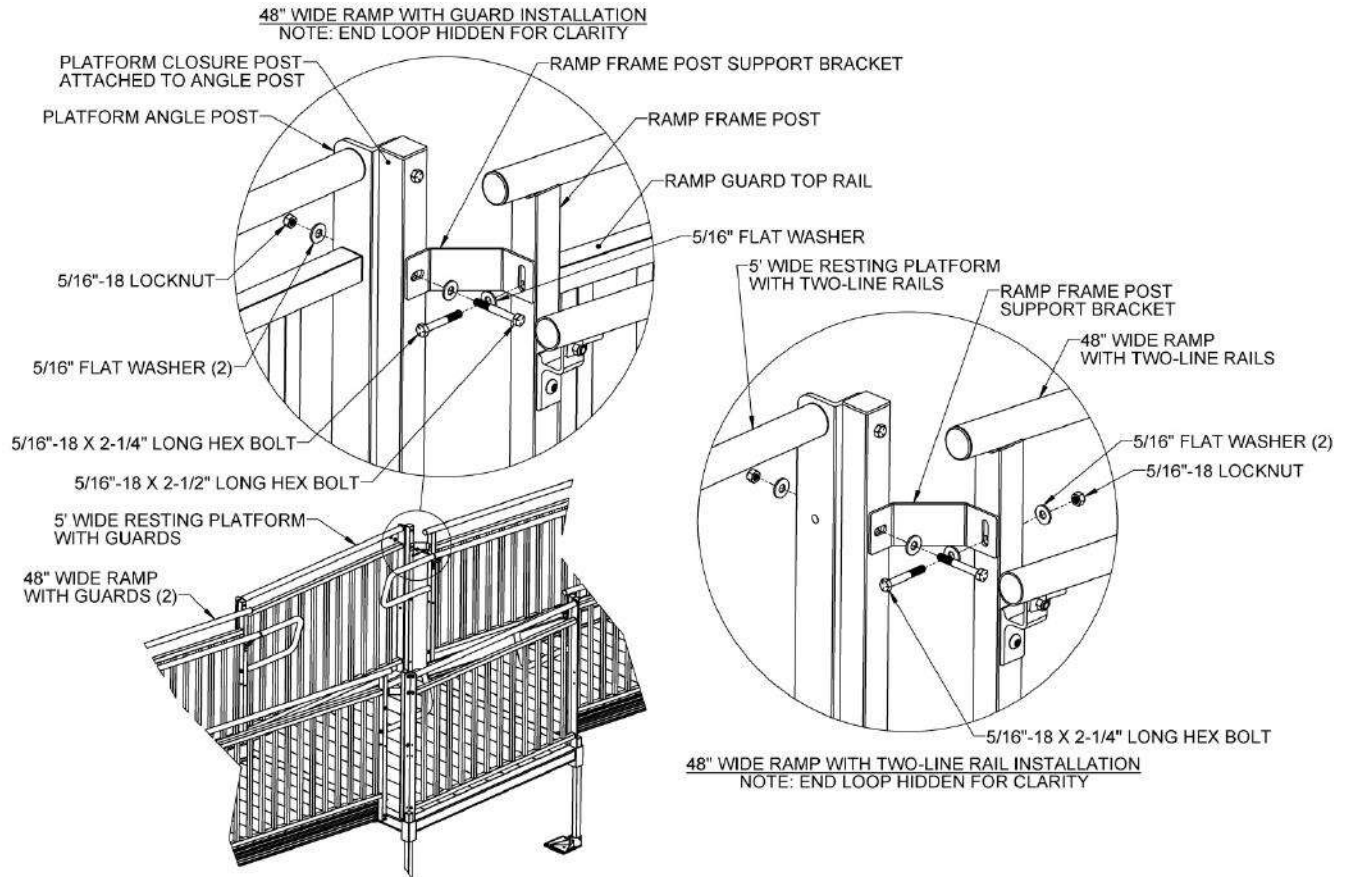

FIG. 5.50
- 5.11.5. If ramps are guarded, first remove the 5/16"-18 x 2-1/4" hex bolt and 5/16" flat washer attaching the guard top rail to the ramp frame post adjacent to the platform angle post (FIG. 5.50). If ramps have two-line rails, 5/16"-18 x 2-1/4" hex bolts, 5/16"-18 locknuts, and 5/16" flat washers are provided for bracket attachment to the uppermost hole in the ramp frame post.
- 5.11.6. For 48" wide ramps, attach the long leg of the ramp frame post support bracket with the vertical slot to the ramp frame post using either the 5/16"-18 x 2-1/4" hex bolt and 5/16" flat washer removed from the guard or a 5/16"-18 x 2-1/4" hex bolt, 5/16"-18 locknut, and 5/16" flat washers if installing a two-line rail (FIG. 5.50).
- 5.11.7. Align the horizontal slot in the ramp frame post support bracket with the second hole from the top of the platform angle post (or the 1-1/2" square x 42-7/16" long closure post if installing a 48" wide ramp) as shown (FIG. 5.51 or FIG. 5.50).
- 5.11.8. Attach the Ramp Frame Post Support Bracket to the platform angle post using a 5/16"-18 x 2-1/2" long hex bolt, 5/16"-18 locknut and 5/16" flat washers oriented as shown through both the 1-1/2" square x 42-7/16" long closure post and platform angle post if installing a 48" wide ramp or directly to the platform angle post using a 5/16"-18 x 1" long hex bolt, 5/16"-18 locknut and 5/16" flat washers oriented as shown (FIG. 5.51 or FIG. 5.50).